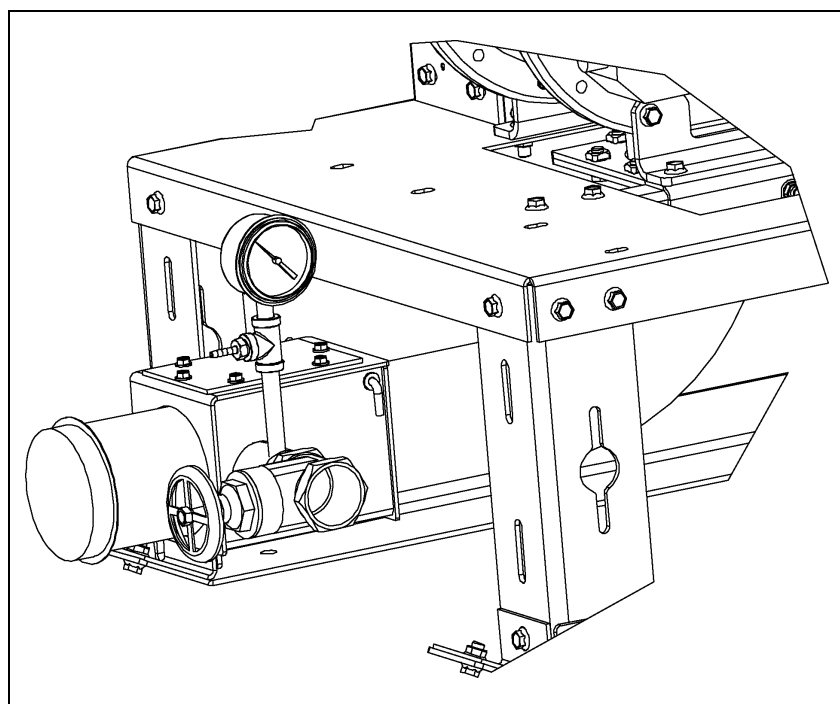

Figure 7M
11. Remove 1/4" pipe plug in gate valve pipe. Install gauge assembly and attach air hose. *(See Figure 7M.)*